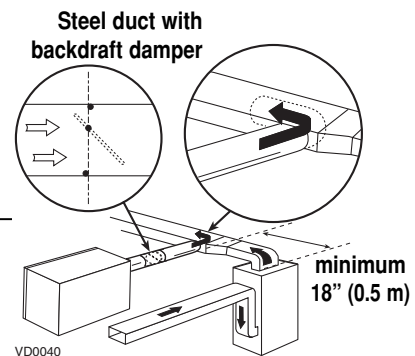

figure 10
- Connect this opening to the fresh air distribution port of the HRV/ERV (use steel duct, see figure 10).